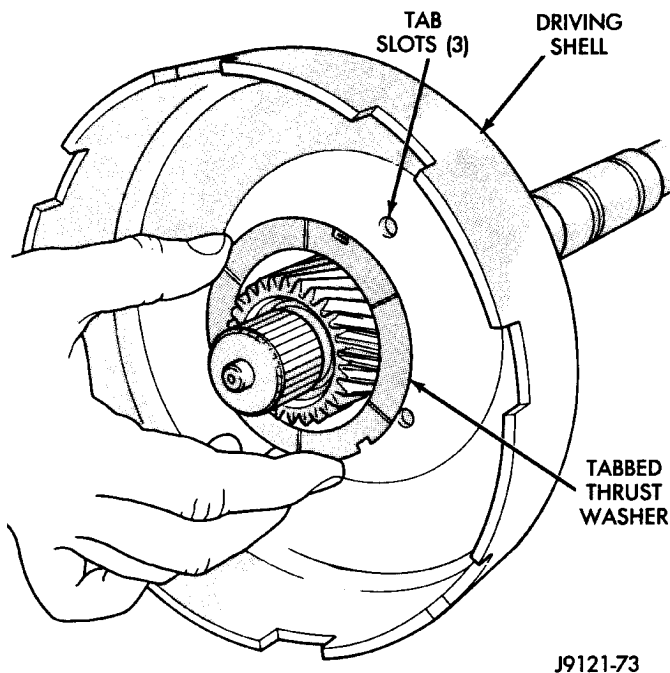

Fig. 187 Installing Driving Shell Thrust Washer
(9) Install tabbed thrust washer in driving shell (Fig. 187), be sure washer tabs are seated in tab slots of driving shell. Use extra petroleum jelly to hold washer in place if desired.